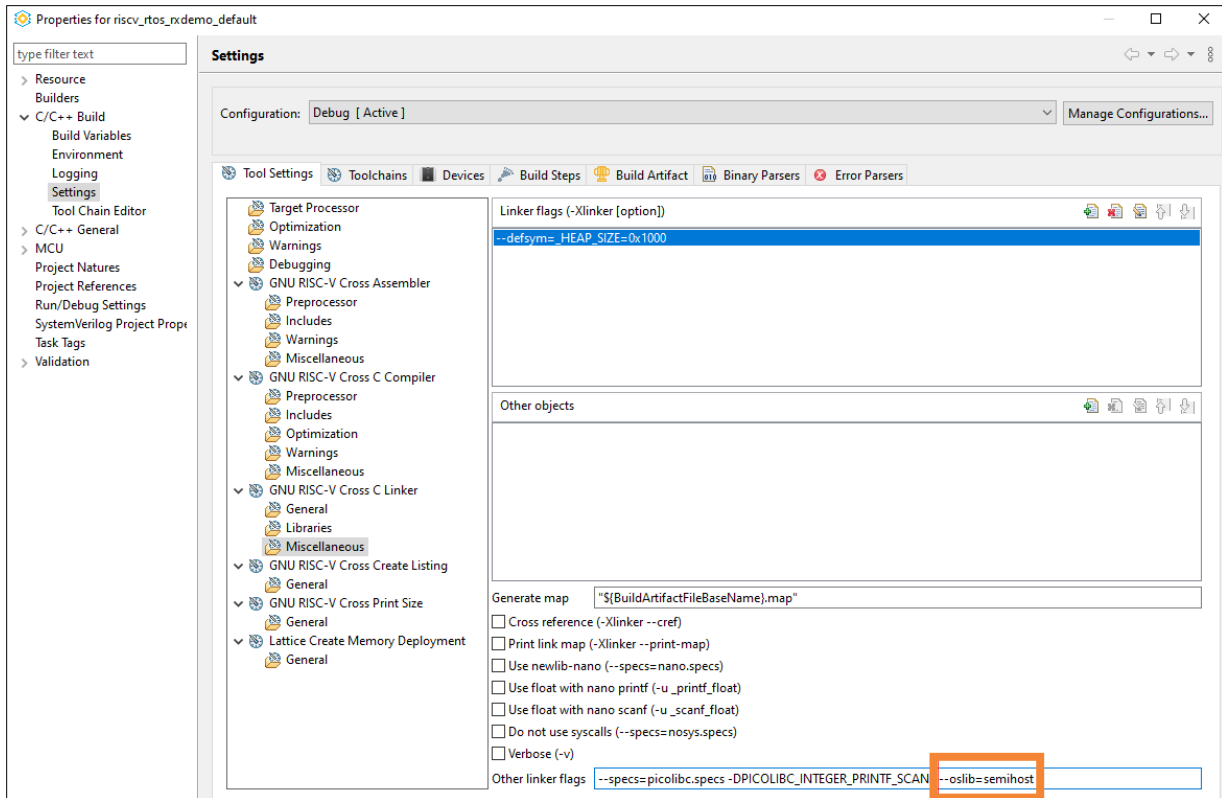

Figure 5.29. --oslib=semihost Linker Flag
7. Select **GNU RISC-V Cross C Linker > Miscellaneous**. Check link flags under the label, Other linker flags. Make sure the linker flag, `--oslib=semihost`, is supported (Figure 5.29).